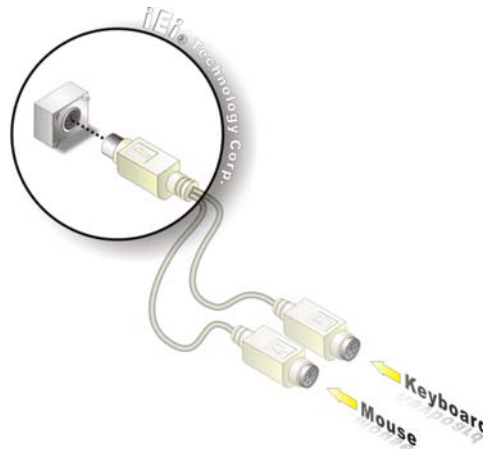

Figure 5-22: PS/2 Connector
Step 3: Insert the PS/2 connector Once the connectors are properly, insert the PS/2 connector from the keyboard and mouse cable into the PS/2 connector on the NANO-9453. See **Figure 5-22**.